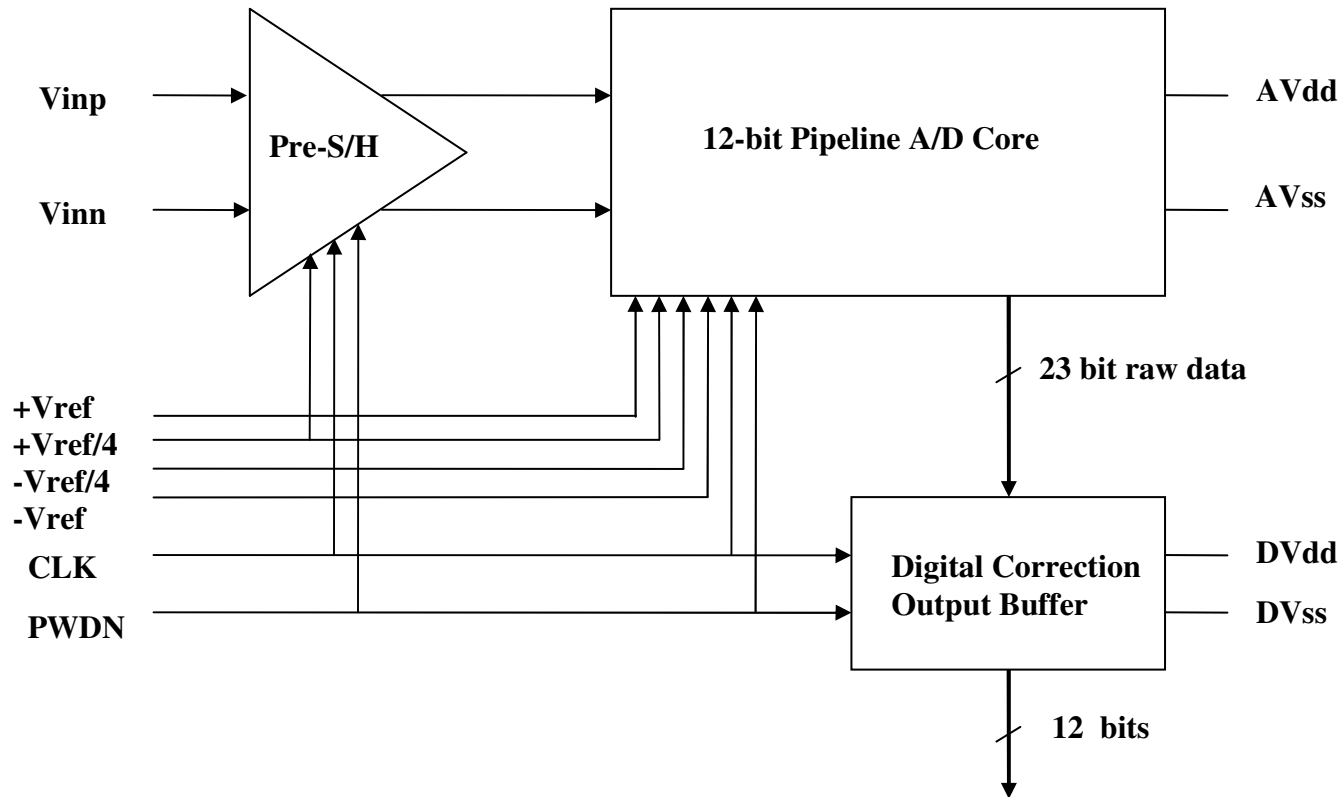

Figure 25. Block diagram of the 12-bit ADC
Figure 25 shows a system block diagram of the 12-bit ADC converter. It consists of (1) a pre sample / hold, (2) a 12-bit pipeline ADC core and (3) a digital correction output buffer. The 12-bit pipeline conversion core consists of 11 conversion 1.5-bit stages and 1 conversion 1-bit stage, as shown in figure 26. There is a total of 23 bit of the digital output from 12bit conversion core. The detailed function block diagram of the 1.5 bit stage is shown in figure 27. The conversion algorithm is shown in figure 28. The spice simulation of MDAC transfer function for the input differential voltage from – 2.048 V to 2.048 V is described in figure 29. Figure 30 presents the transfer error for the whole voltage range. As shown in the figure, the error is less than 0.5 LSB. The setting time for three different simulation conditions (typical, best and worst case) for low voltage, middle voltage, and high voltage is displayed in figure 31. The performance of the ADC is presented in table 3. This circuitry is used on our standard product. The pipeline ADC can achieve high speed, high performance and low noise for this application.